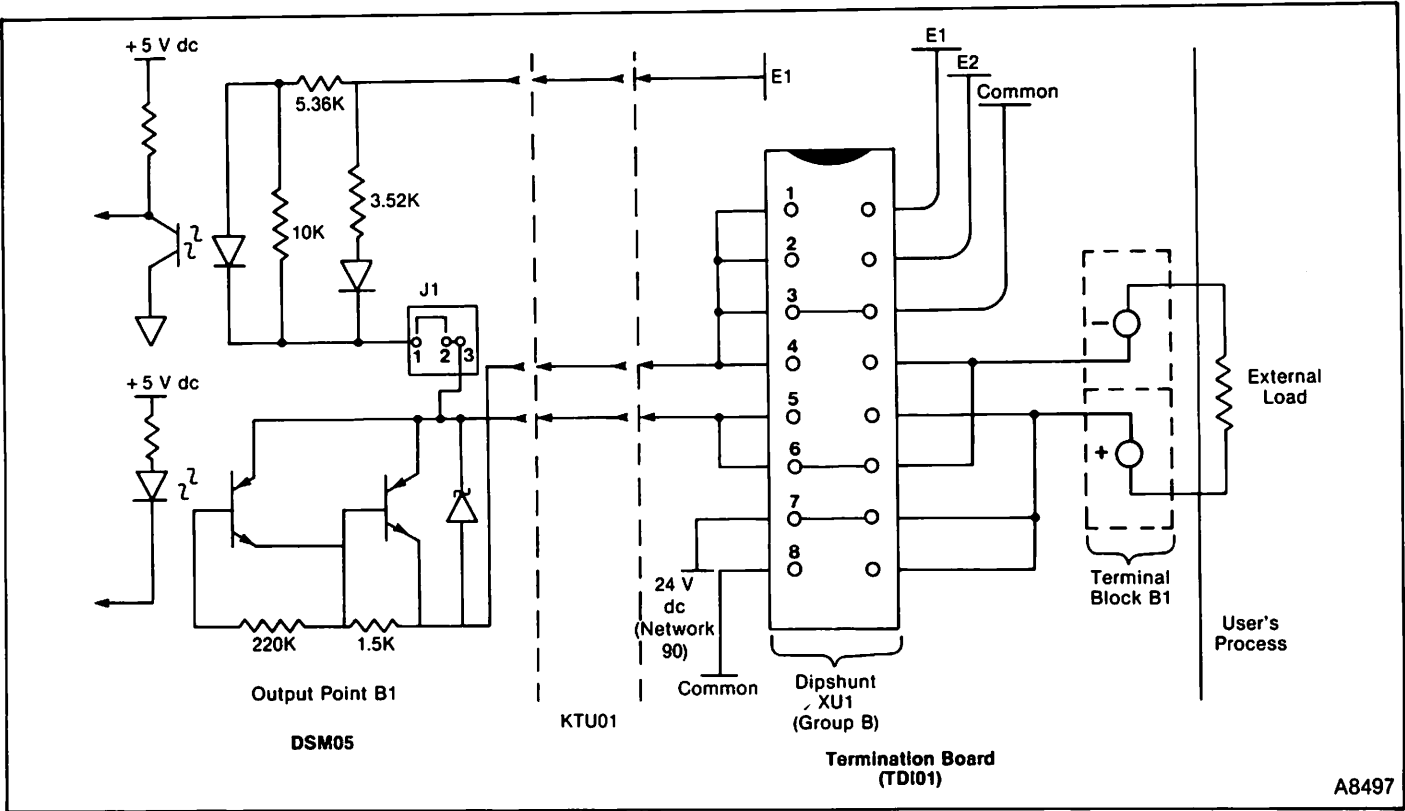

FIGURE 13 — Using the DSM05 to Power an External Load.
**Example 1: Powering an External Load.** Figure 13 shows an example of how the user sets up an I/O point so that the DSM05 can power an external load. Note that the user has attached an external load to terminal block B1. He is bringing 24 V dc from the NETWORK 90 system into the I/O point (through strap 7 on dipshunt XU1). To complete the circuit, the user must:
In Figure 13, jumper J1 is between posts 1 and 2. In this case, this makes output B1 a “common” output. All other output points in group B with jumpers between posts 1 and 2 send their outputs to the same destination as B1 (a “common” destination). To “isolate” any output in group B, the user simply moves this jumper to posts 2 and 3. This allows the user to send the 24 V dc internal power of the NETWORK 90 system to a destination that is different from the destination of his “common”